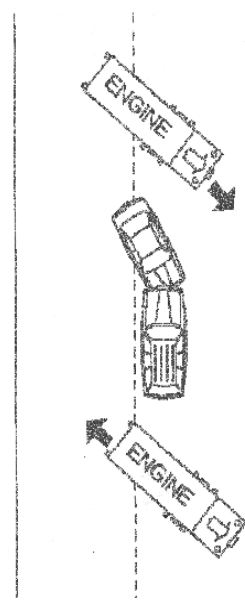

Figure 2
3. At intersections, or where the incident may be near the middle of the street, two or more sides of the incident may need to be protected. Block all exposed sides. Where apparatus is in limited numbers, prioritize the blocking from the most critical to the least critical (See Figures 2, 3, and 4).